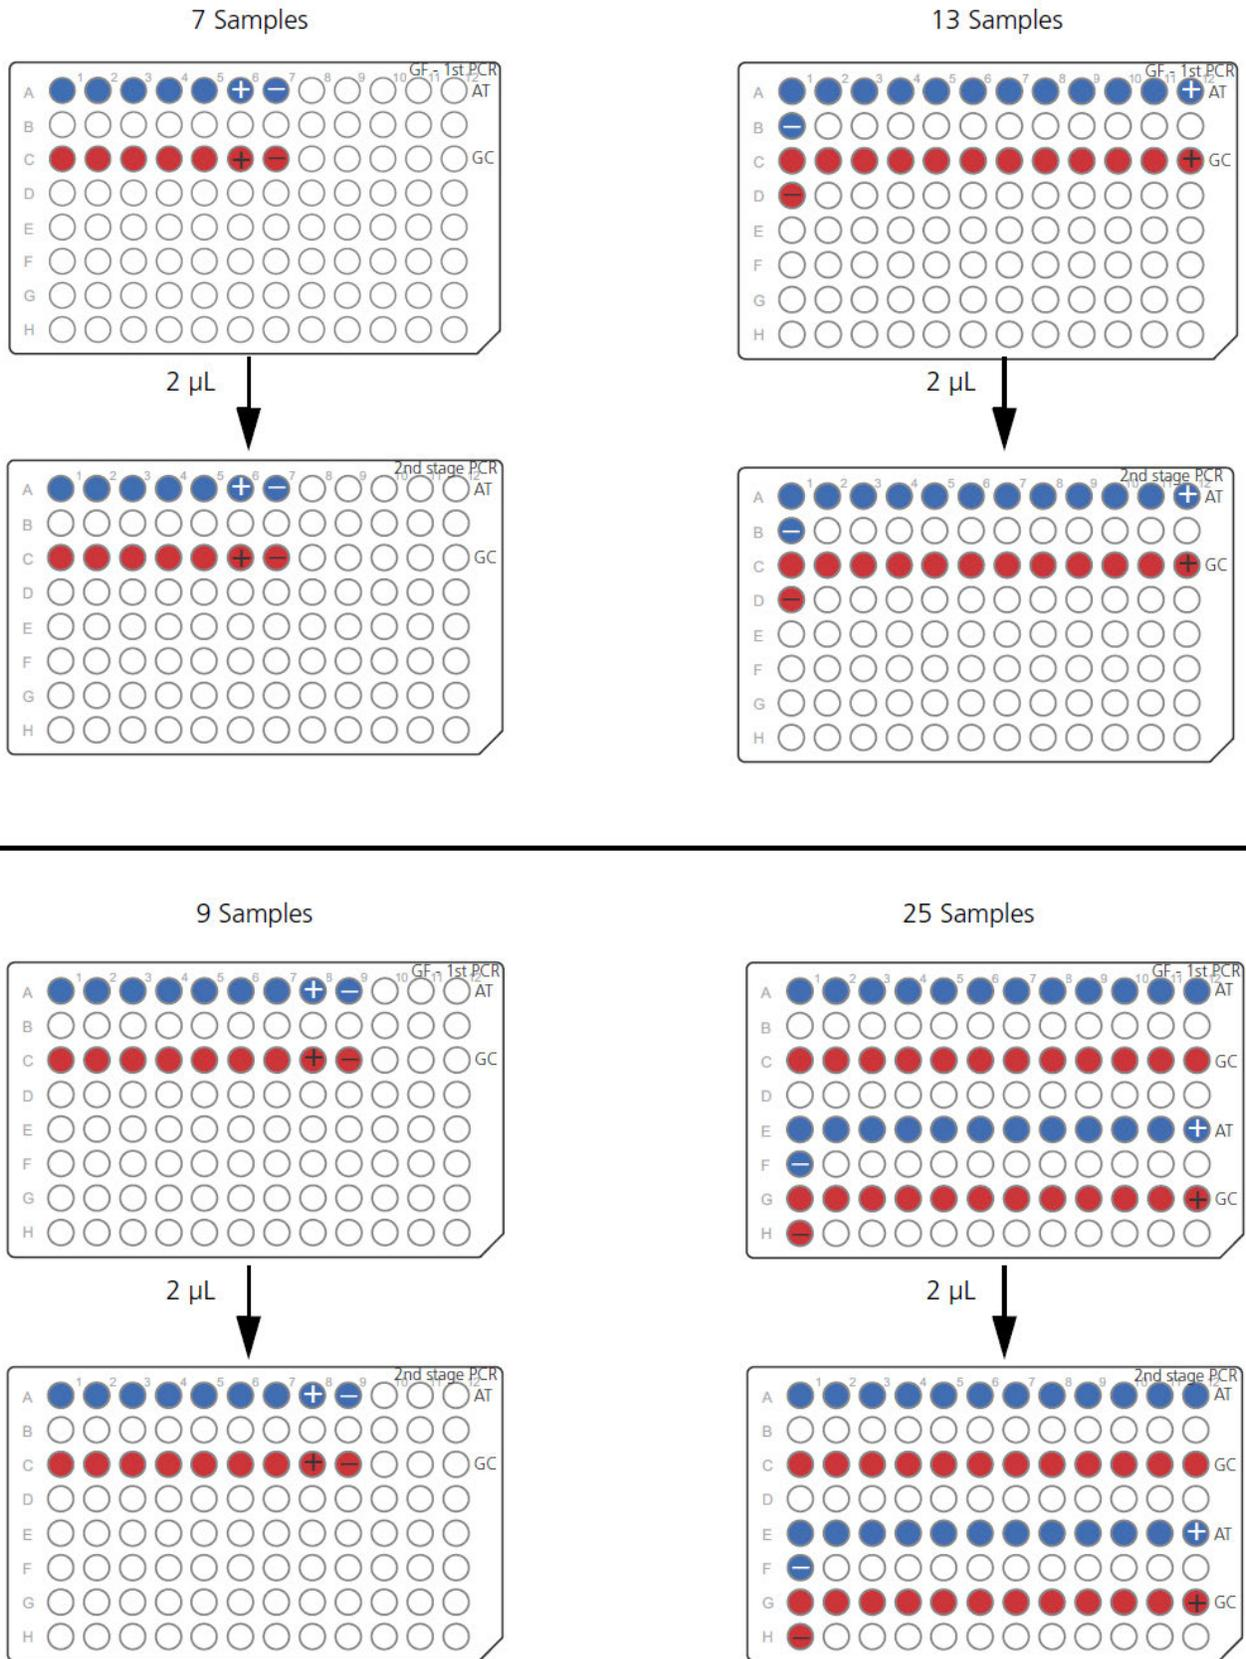

Figure 19 Add the 1st PCR Product to the 2nd PCR Plate.
4. Use a multichannel P20 pipette to transfer 2.0 µL of the 1st PCR product from the **1st PCR Plate** to the corresponding well of the **2nd PCR Plate**. (Figure 19.)
**Note:** For the 13- or 25-sample protocol, use a single channel pipette to add 2.0 µL of the Negative Control 1st PCR product from the **1st PCR Plate** to the corresponding wells of the **2nd PCR Plate**. Pipet up and down 3 times to rinse the tip. (Figure 19.)